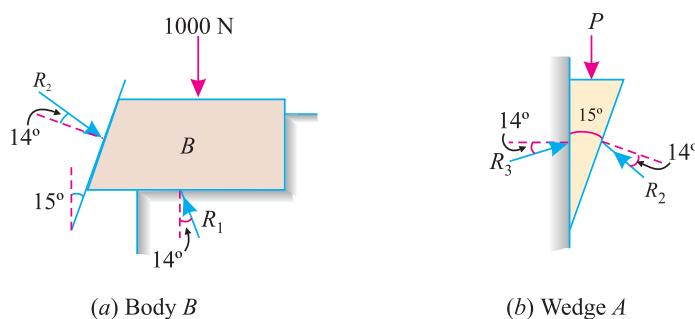

**Fig. 9.16.**
1. First of all, draw the space diagram for the body ( $B$ ) and wedge ( $A$ ) as shown in Fig. 9.16 (a). Now draw the reactions  $R_1$ ,  $R_2$  and  $R_3$  at angles of  $14^\circ$  with normal to the faces.
3. Now through  $l$  draw a vertical line representing the vertical force ( $P$ ). Similarly, through  $n$  draw a line parallel to the reaction  $R_3$  meeting the first line at  $O$  as shown in Fig. 9.16 (b).